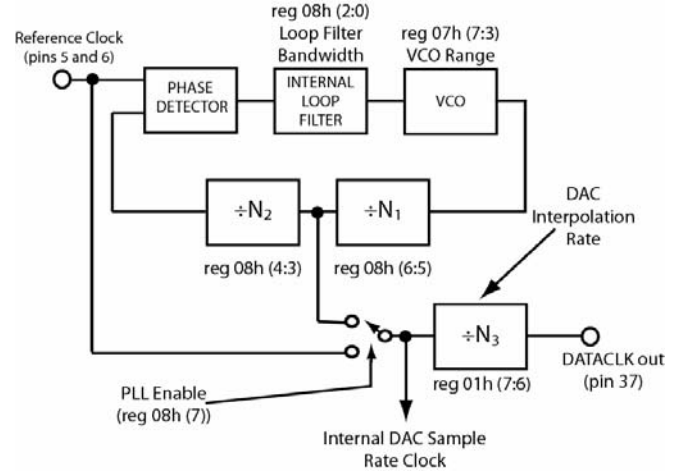

Figure 32. Internal Clock Architecture of AD9776
The internal clock architecture is shown in Figure 32. The reference clock is the differential clock at pins 5 and 6. This clock input can be run differentially, or singled ended by driving pin 5 with a clock signal, and biasing pin 6 to the mid swing point of the signal at pin 5. There are various configurations in which this clock architecture can be run;
1. PLL Enabled (reg 08h, bit 7=1) – The PLL enable switch in Figure 32 is connected to the junction of the dividers N1 and N2. Divider N3 determines the interpolation rate of the DAC, and the ratio N2/N3 determines the ratio of Reference Clock/Input Data Rate. The VCO runs optimally over the range 804MHz to 1800MHz, so that N1 is used to keep the speed of the VCO in this range, even though the DAC sample rate may be lower. The loop filter components are entirely internal and no external compensation is necessary.
2. PLL Disabled (reg 08h, bit 7=0) – The PLL enable switch in Figure 32 is connected to the Reference Clock Input. The differential reference clock input will be the DAC output sample rate and N3 will determine the interpolation rate.